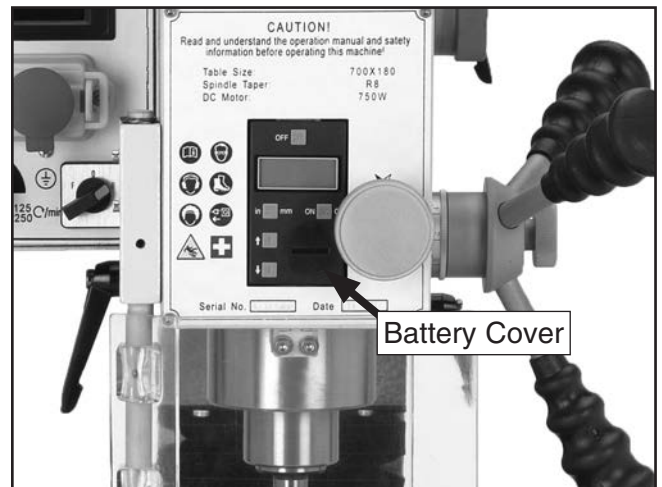

Figure 58. Battery replacement.
1. Use a wide (#3) standard screwdriver or the edge of a coin to remove the battery cover (**Figure 58**).